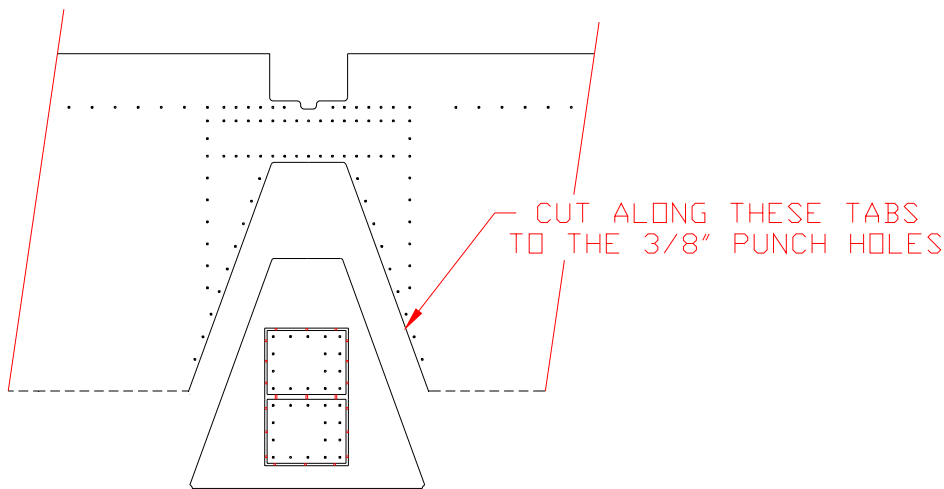

Figure 3.5.2
- 8) Cut the center from the Elevator Skin and smooth with a file. See Figure 3.5.2.